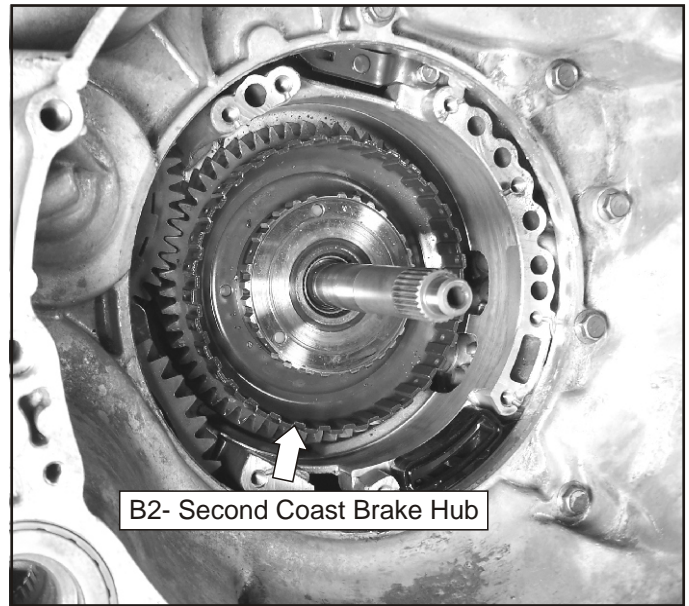

Figure 44
4. Once the pump is removed, remove the B2-Second Coast Brake Hub assembly as shown in Figure 44.